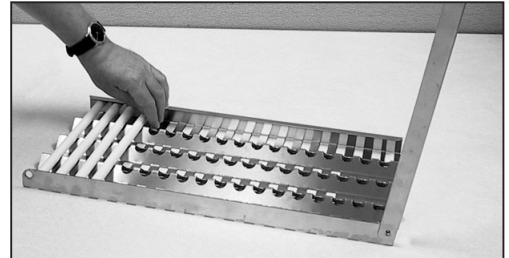

FIG.13
3. Place 18 ceramic rods on the radiant (Fig. 13).
- a) *Unlock radiant end cap by pushing it up with two fingers (Fig. 13) or pliers may be used.*